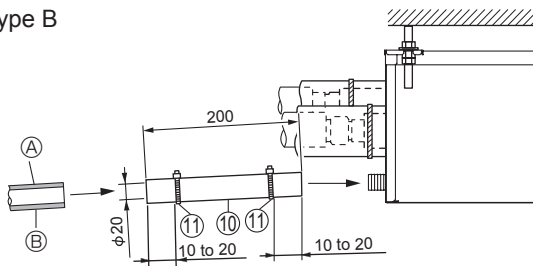

Fig. 8-1
- (1) Apply PVC adhesive (procure locally) to the drain connection on the branch box and push the attached drain hose ⑩ onto the connection as far as it will go. (Fig. 8-1)
- (2) Insert a hard PVC pipe (VP-16, procure locally) into the attached drain hose ⑩ and glue it together and fix it. (Fig. 8-1)
- (3) Fit a band ⑪ to the attached drain hose ⑩ (Fig. 8-1)